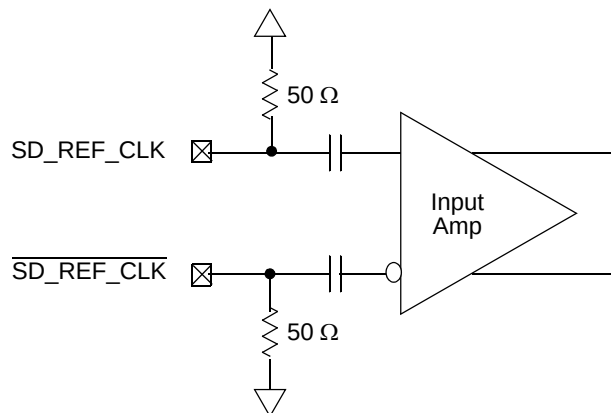

Figure 39. Receiver of SerDes Reference Clocks
Figure 39 shows a receiver reference diagram of the SerDes reference clocks.
- The SD_REF_CLK and $\overline{SD_REF_CLK}$ are internally AC-coupled differential inputs as shown in Figure 39. Each differential clock input (SD_REF_CLK or $\overline{SD_REF_CLK}$) has a 50-Ω termination to XCOREVSS followed by on-chip AC-coupling.